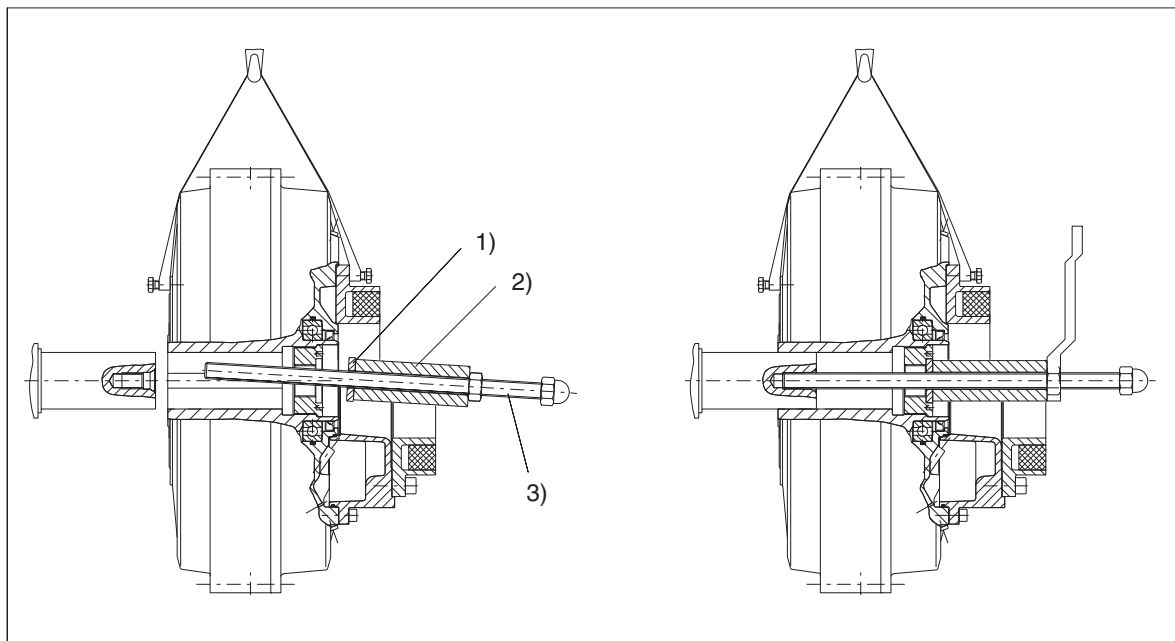

Fig. 8: Fitting the coupling parts
- Fit the FLUDEX coupling using locking plate (140) and spindle, until they come into contact with the shaft shoulder (see figure 8).
- After being pulled on, the FLUDEX coupling must be secured axially by means of a locking plate (140) and a retaining screw (141) or a set screw (see item 6.1.3).